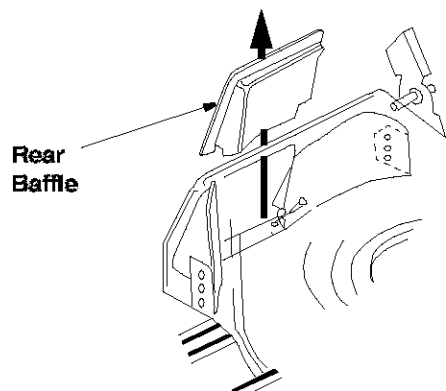

Figure 8
- If your mower is equipped with a rear baffle, and it is in place on the mower, lift the rear discharge door and remove it from the mower. See Figure 8.